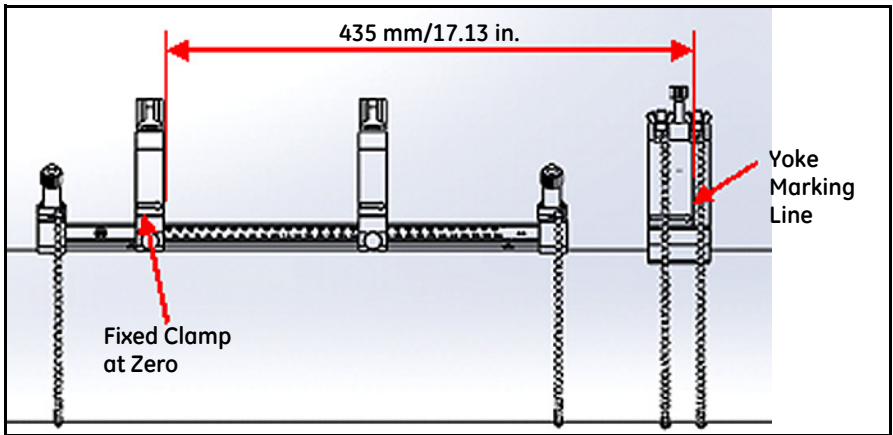

Figure 39: Yoke Set at 435 mm/17.13 in.
6. Place the fixed clamp in the clamping fixture at zero on the scale. As an example, if the required transducer spacing is 435 mm/17.13 in., measure the required 435 mm/17.13 in. distance from the edge of the fixed clamp to the marked line on the yoke (see *Figure 39* below).